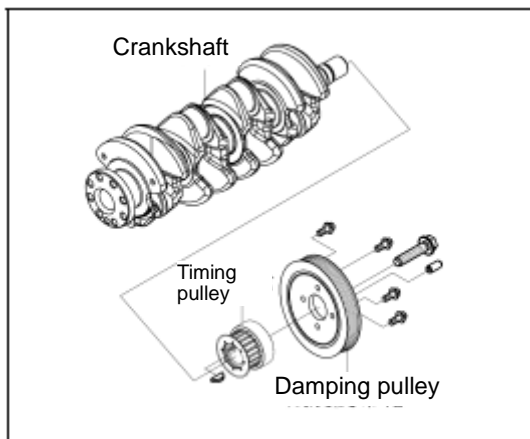

Fig. 5-20-49 Installing the damping pulley assembly
(1) Install the elastic cylindrical spring pin into the pin hole of the crankshaft timing belt pulley.
(2) Align the damping pulley pin holes, install the damping pulley to the front end of crankshaft, and screw down 4 hexagon flange bolts (M8×20) as per specified torque. See Fig. 5-20-49.